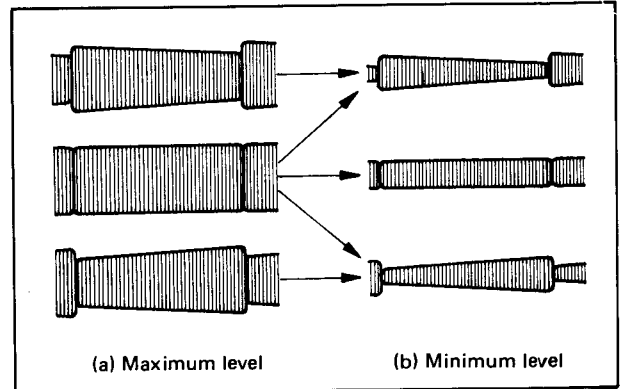
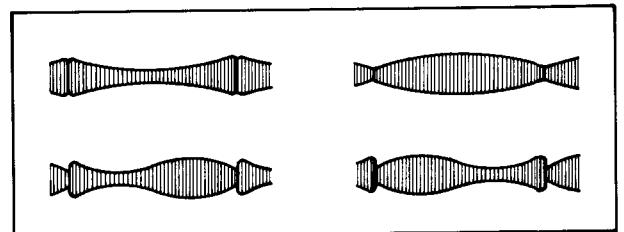

Fig. 4-45 Normal waveform examples
Fig. 4-46 Incorrect waveform examples
7. Turn the Tracking control from end to end. The waveform variation should be nearly parallel as shown in Fig. 4-45, not in Fig. 4-46.